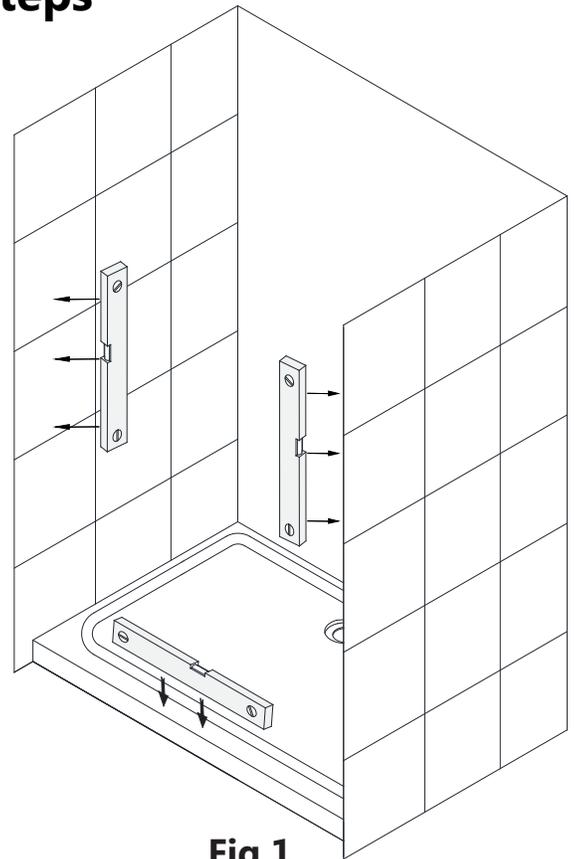

Fig 1
1. Check both of the finished walls for plumb and the threshold for level. **(Fig 1)**